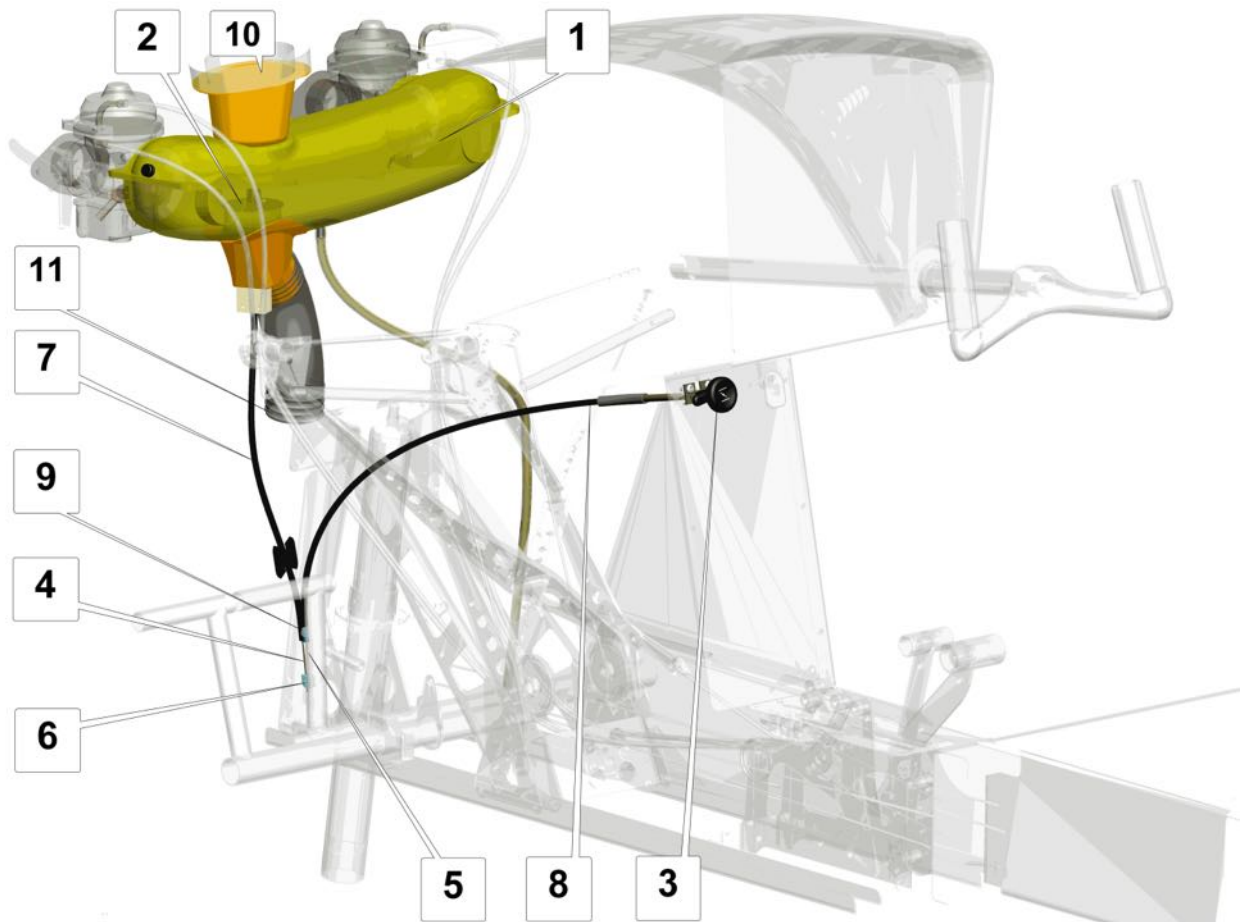

Fig. 1 Carburettor heating control
Carburetor heating control (**Fig. 1**) is achieved by means of controlling the position of the shutter (2) in the air intake box (1) covering the air filters of the carburetors. The control lever (3) is connected to the shutter with forward (4) and rear (5) push-pull cables and clip (6). The cables are enclosed in forward sheath (7, fixed to air intake box) and rear sheath (8, fixed to the instrument panel) connected to each other with a clamp (9).